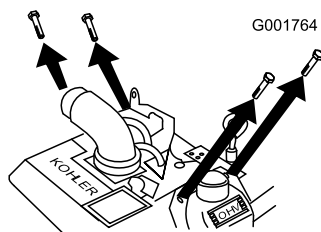

Figure 16
2. Remove the top 2 valve cover mounting bolts from both valve covers (Figure 16).